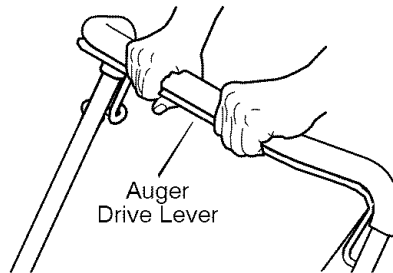

Figure 8
1. Hold the **auger drive lever** against the **handle** (See Figure 8). The auger will begin rotating.